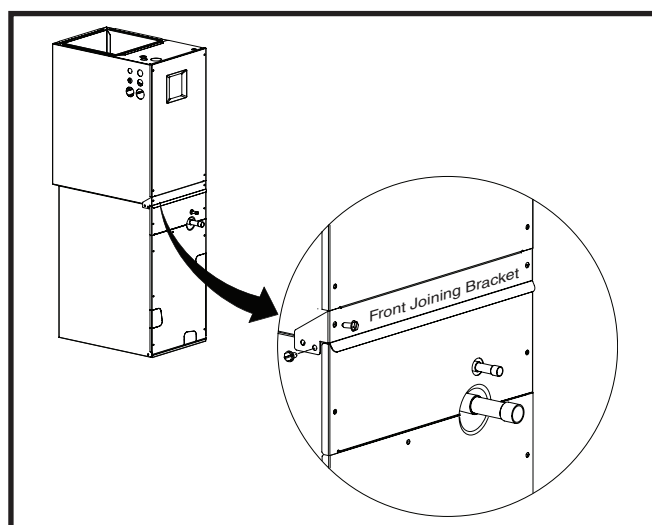

Figure 3. Front Bracket Installation - (Upflow Only)
4. Attach the front joining bracket to the front of the modular unit. Align the screw holes in the bracket with the holes from the lower front bracket and the top panel of the coil case. See Figure 3 \(page 6\).
1. Remove the lower front bracket (Figure 3, page 6) from the modular unit. Retain the screws for later use.